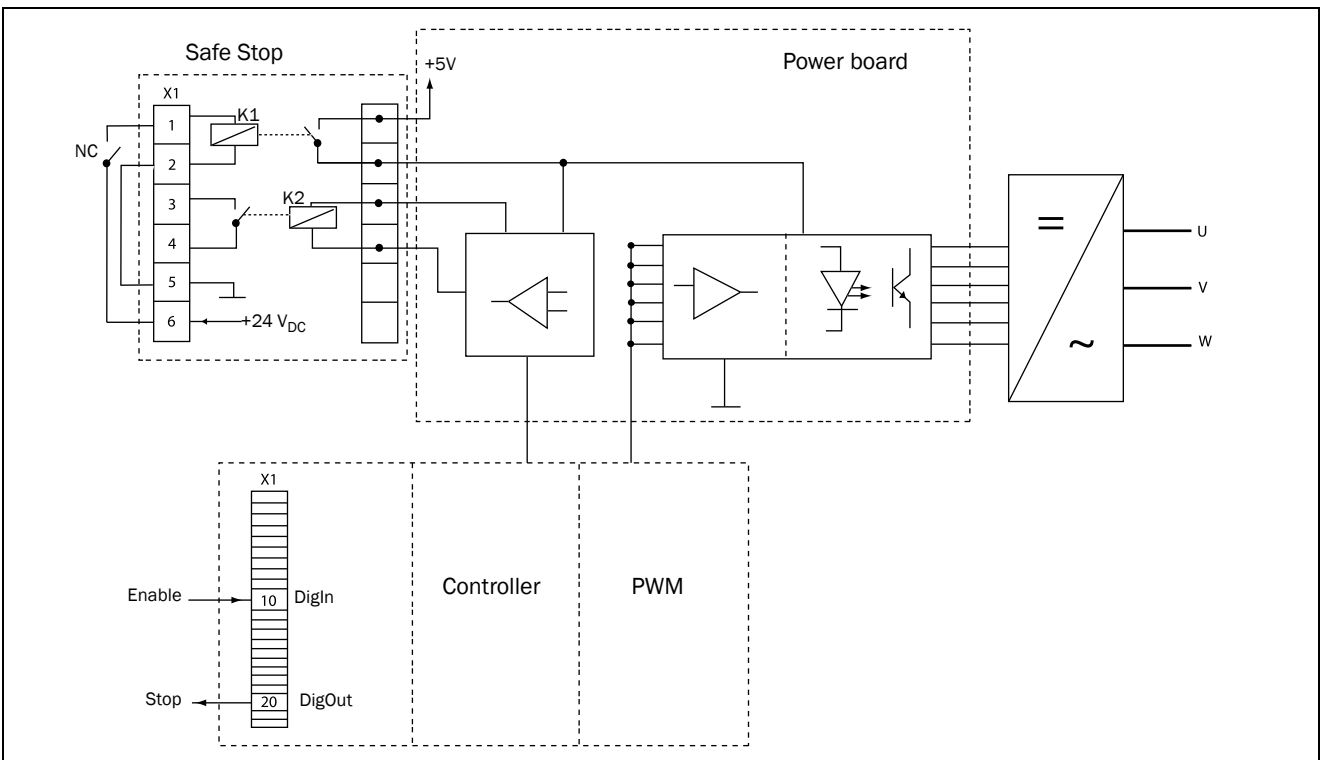

Fig. 140 Safe Stop connection
- "Inhibit" input, terminals 1 (DC+) and 2 (DC-) on the Safe Stop option board should be made active by connecting 24 V_{DC} to secure the supply voltage for the driver circuits of the power conductors via safety relay K1. See also Fig. 140.
- High signal on the digital input, e.g. terminal 10 in Fig. 140, which is set to "Enable". For setting the digital input please refer to "11.5.2 Digital Inputs [520]" on page 151.